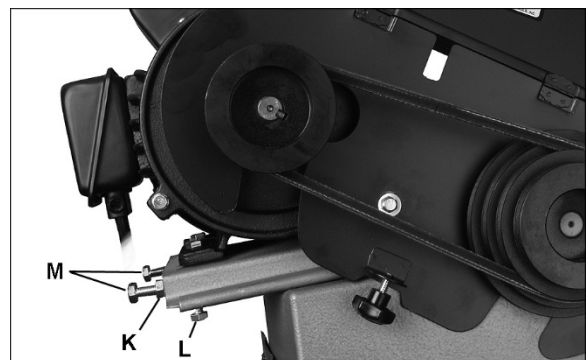
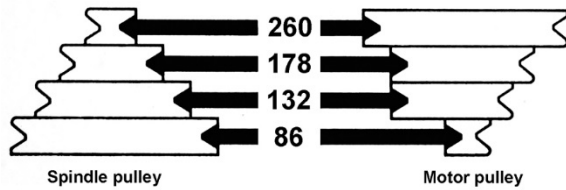

Figure 8-5: Blade Speed Adjustment
Figure 8-6
- 3) Open pulley cover and loosen hex nuts (K, Figure 8-5). Turn screw (L) out to relieve pressure on motor mount plate.
- 4) Turn screws (M) clockwise to push motor mount plate, relieving tension on belt.
- 5) Move belt to desired pulley combination. Refer to chart inside pulley cover (reproduced in Figure 8-6).